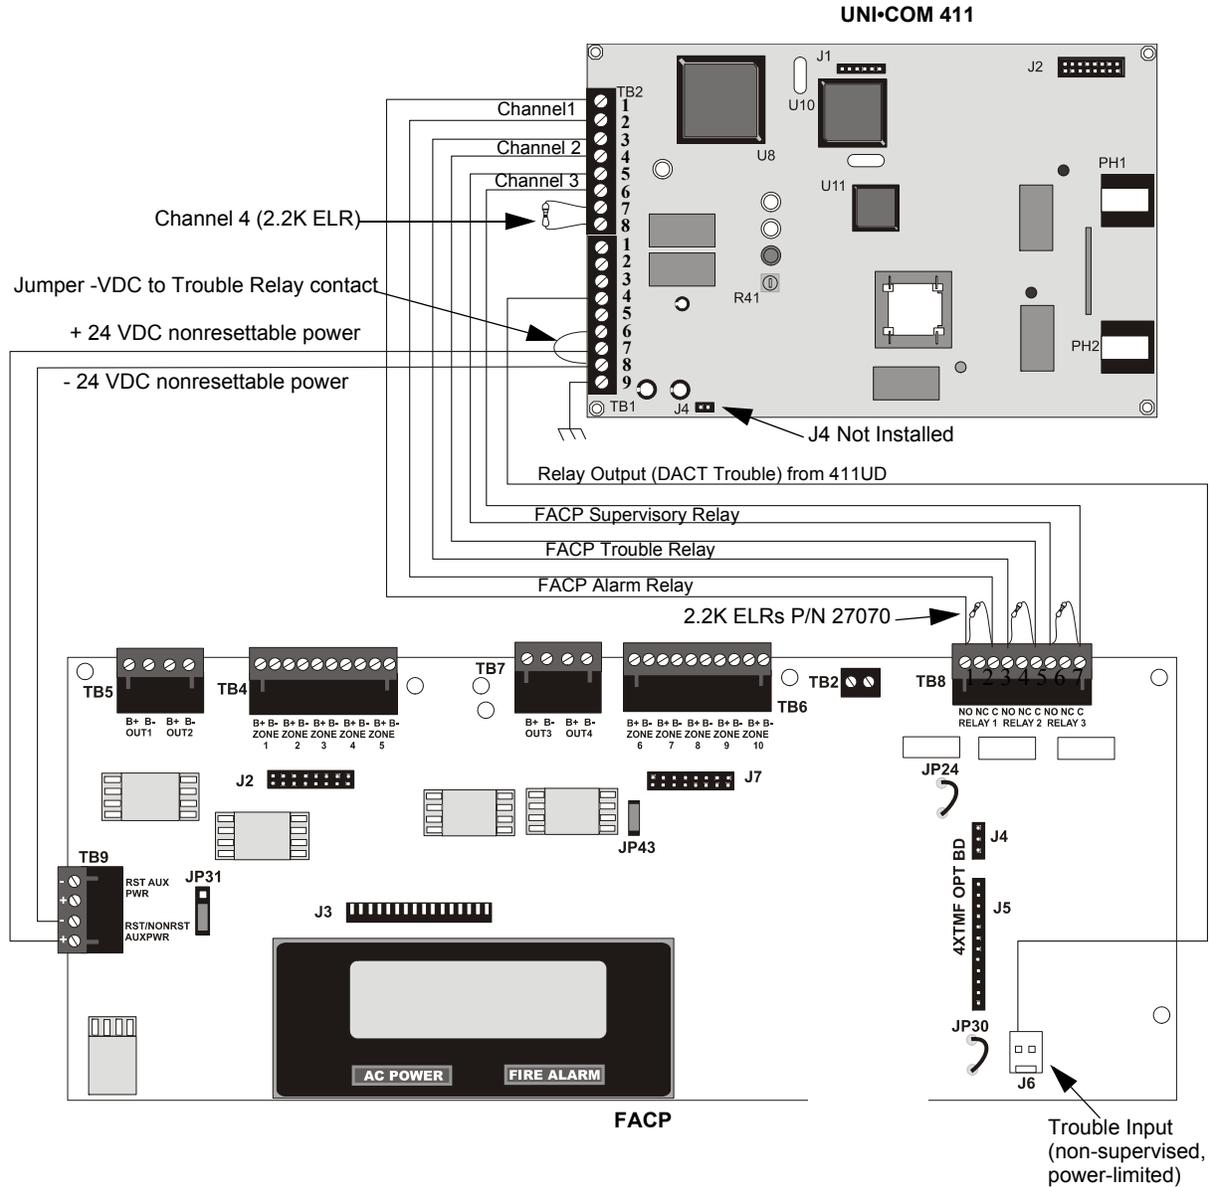

Figure B.1 Unimode 5UD/Unimode 10UD FACP Connection to UNI•COM 411
UNI•COM 411 may be installed as illustrated in Figure B.1, “Unimode 5UD/Unimode 10UD FACP Connection to UNI•COM 411,” on page 112.
5. Any zone of the UNI•COM 411 can be wired to function as alarm, trouble or supervisory. In Figure B.1 on page 112, Channel 1/Zone 1 is wired to the control panel's alarm relay, Channel 2/Zone 2 is wired to the control panel's trouble relay and Channel 3/Zone 3 is wired to the control panel's supervisory relay